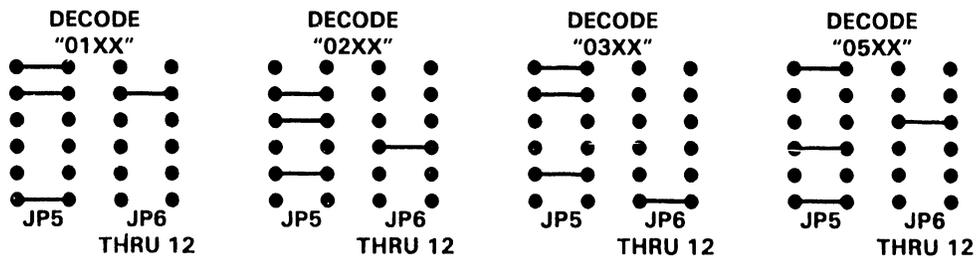

Figure 5-19. 210-8337 1-Port TC Device Adapter Connector and Jumper Locations
4. Check all address selection jumpers as shown in figures 5-19 and 5-20. Make sure that no TC DA addresses conflict with other DA addresses.